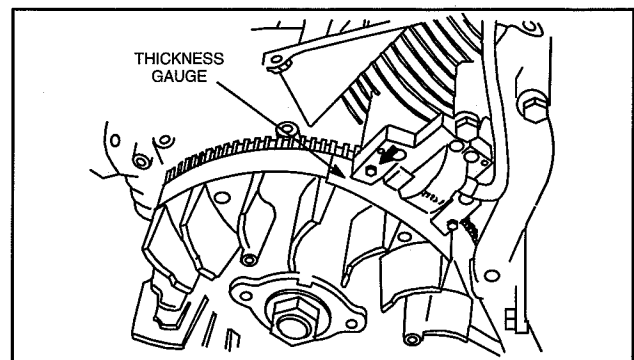

Fig. 12 – Adjust Air Gap
2. Place thickness gauge .008" – .012" (0.20 – .30 mm) between magnet and armature laminations, Fig. 12.